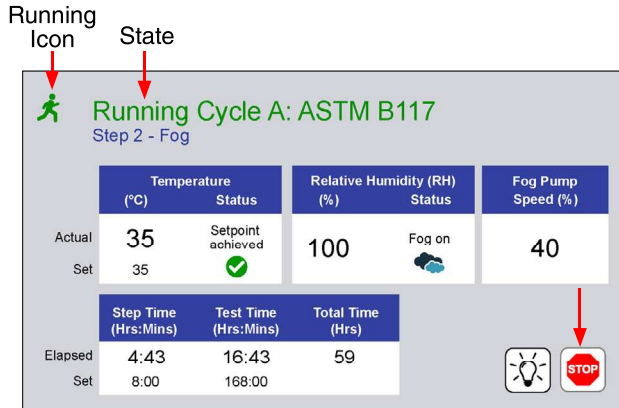
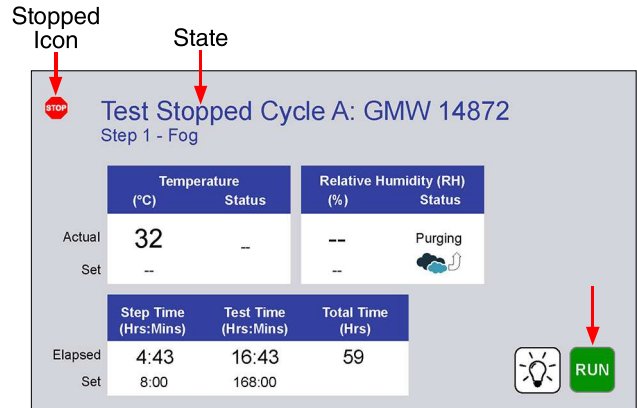

Figure 9.2f: Status icon and state when test running.
Figure 9.2g: Status icon and state when test stopped.
- A colored icon and state at the top of the screen indicate the overall status of the test (Figure 9.2f, Figure 9.2g).